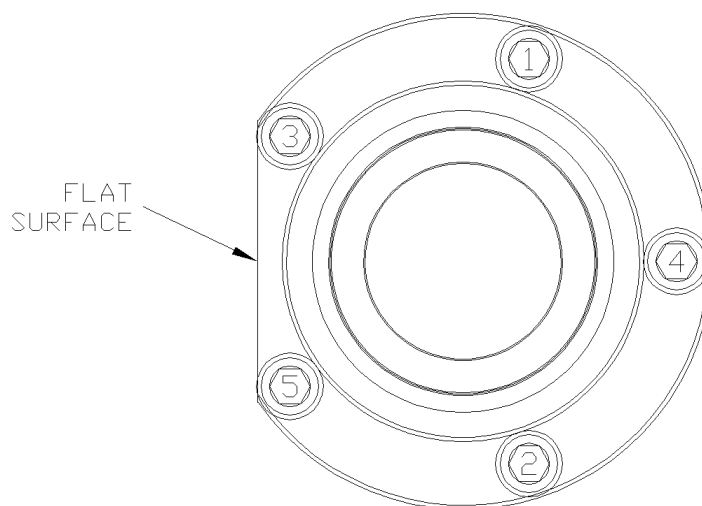

Figure 20.
18. Wrap masking tape or electrical tape around the pinion to cover the edges at the key-way. Slide the bearing cap assembly over the pinion shaft with the bearing cap seal facing toward the actuator body and the flat surface of the flange shown in Figure 20 facing toward the actuator mounting flanges. Press against the bearing cap until the shoulder seats against the actuator body, making sure that the seals remain in place. Install the bearing cap bolts (21) (Figure C-13) and lock washers (25). Hand tighten only at this time. Repeat this procedure for other bearing cap.
19. After both bearing caps have been installed, torque all bearing cap bolts to 30 ft-lb. in the sequence shown in Figure 20.